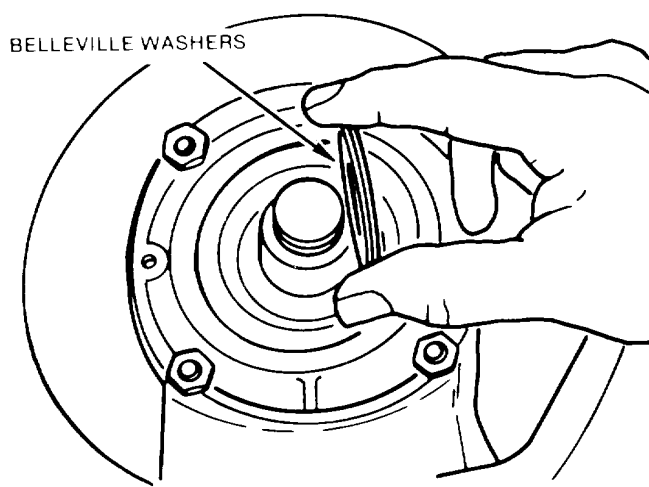

Figure A-33. Belleville Washers
- (1) Replace the two belleville washers so that their outer edges, are touching. (Figure A-33.)